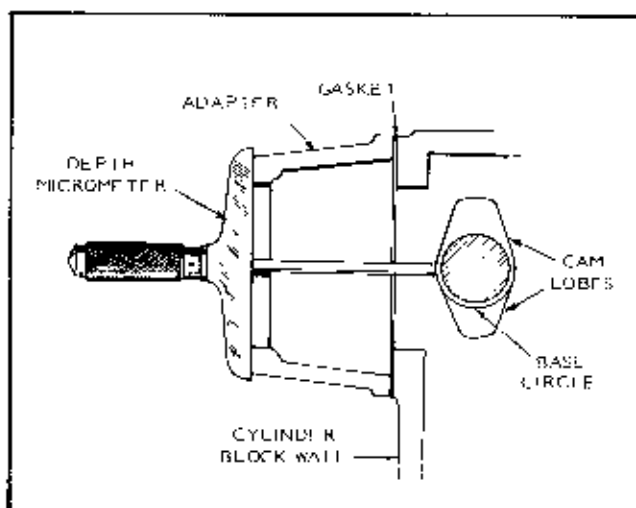

FIGURE 3-49. MEASURING DEPTH FOR SHIM THICKNESS
2. Determine shim thickness required between pump and adapter because the new gasket may not be the same thickness as the original one. See Figure 3-49.
1. Rotate crankshaft to position camshaft so that the pump rollers contact the camshaft base circle (low point of the pump cam lobes). One lobe should be up, the other lobe down. See Figure 3-49.